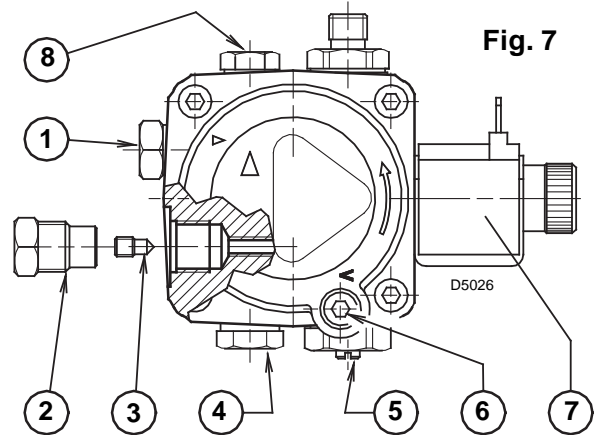
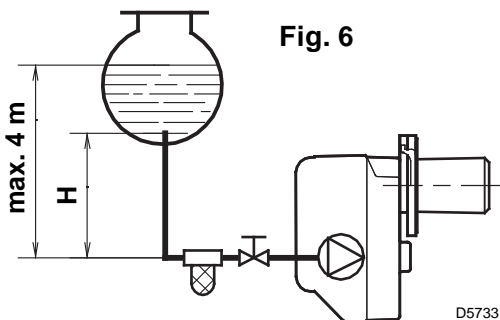

Fig. 7
Fig. 6
- The pump is designed to allow working with two pipes. In order to obtain one pipe working it is necessary to unscrew the return nut (2), remove the by-pass screw (3) and then screw again the nut (2). (See fig. 7).
On the system in fig. 6 it is sufficient to loosen the suction gauge connection (6, fig. 7) and wait until oil flows out.